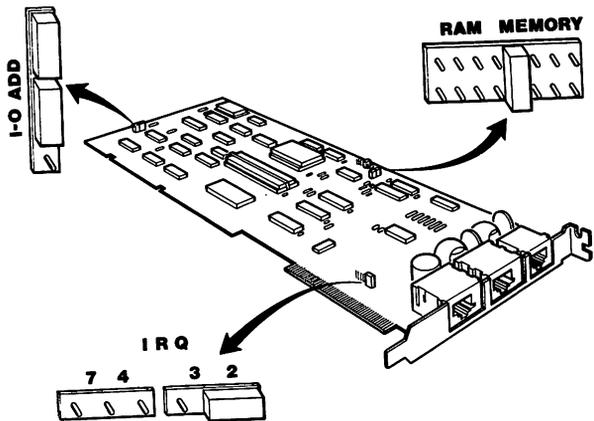

Figure 2-1. XC 22 Network Access Board
Check Fig. 2-1 to verify that the board you are installing is an XC 22 Network Access Board.
- If your board looks like Fig. 2-1, continue with the installation instructions below.
- If your board does not look like Fig. 2-1, you may be installing an XC 24 Network Access Board. Compare your board to Fig. 2-1 on page 2-47 and continue with those instructions, if applicable.
1. Locate the small red plastic connectors on your XC 22 board. These connectors are called jumpers. Check that the jumpers on your board are positioned as shown in Fig. 2-1.